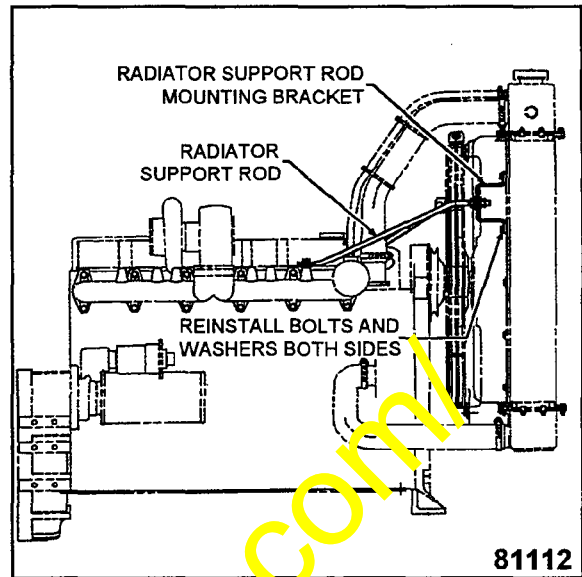

Figure 1
1. Remove bolts holding radiator support rods and brackets to engine and radiator from each side (see Figure 1).